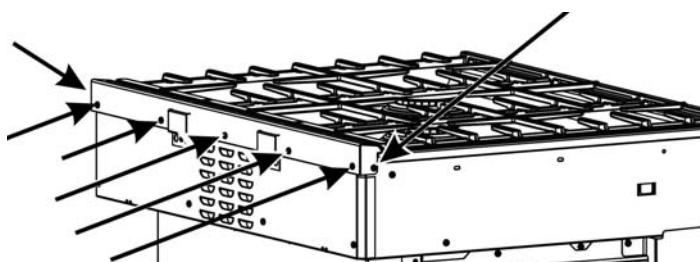

Figure 1: Trim Screws, Dual Fuel Range
Can the range slide out enough to have access to the rear and side trim screws? See Figure 1: Trim Screws, Dual Fuel Range.
2. Slide the range out enough to access the trim mounting screws (see Figure 1: Trim Screws, Dual Fuel Range).
7. Secure the Island Trim with one screw at each end and five screws in the back. See Figure 1: Trim Screws, Dual Fuel Range.